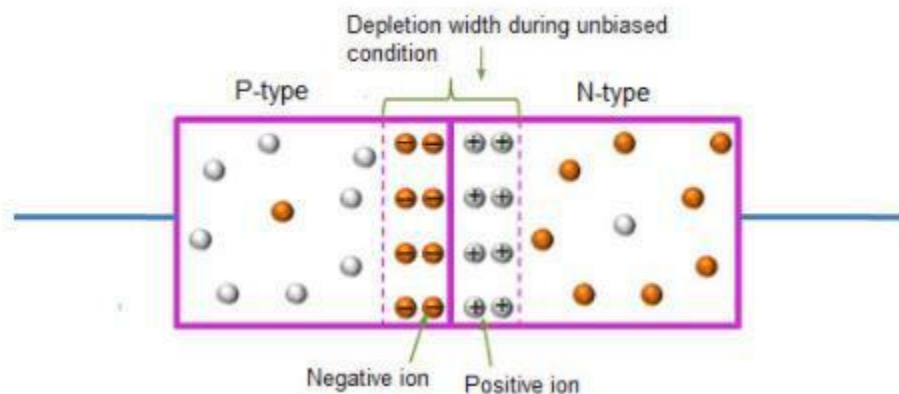

Fig 1.1: PN-junction diode
- In below Fig 1.1 p-type and n-type semiconductor materials are shown side by side representing a PN- junction.